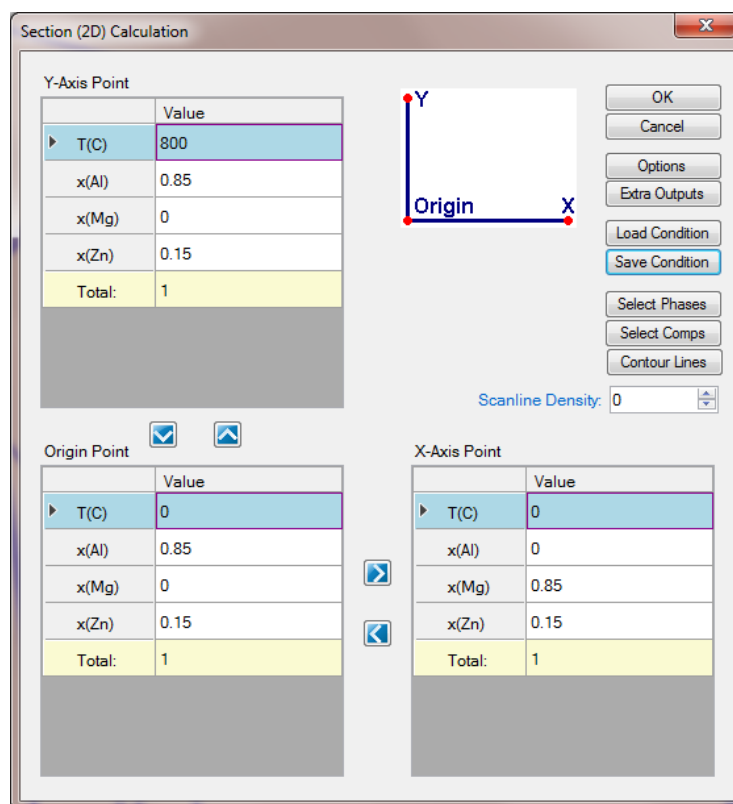

Figure 1.6.1: 2D calculation of an isopleth parallel to Al-Mg binary with 15 at% Zn
- Set Calculation Condition as shown in Figure 1.6.1;